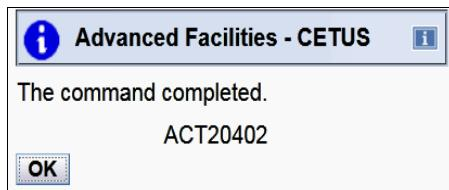

Figure 6-16 OSA/SF on HMC: Validate window value with success
12. If all of the parameters have been entered correctly, a window as shown in Figure 6-16 is displayed.